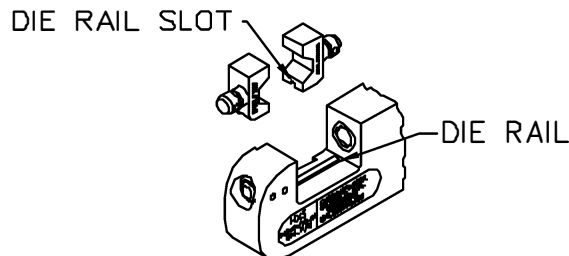

FIG. 1
1. Align die rail slots in die halves with the rail in crimp tool and push shank of dies into holes. Dies will snap into place. (See Figure 1)